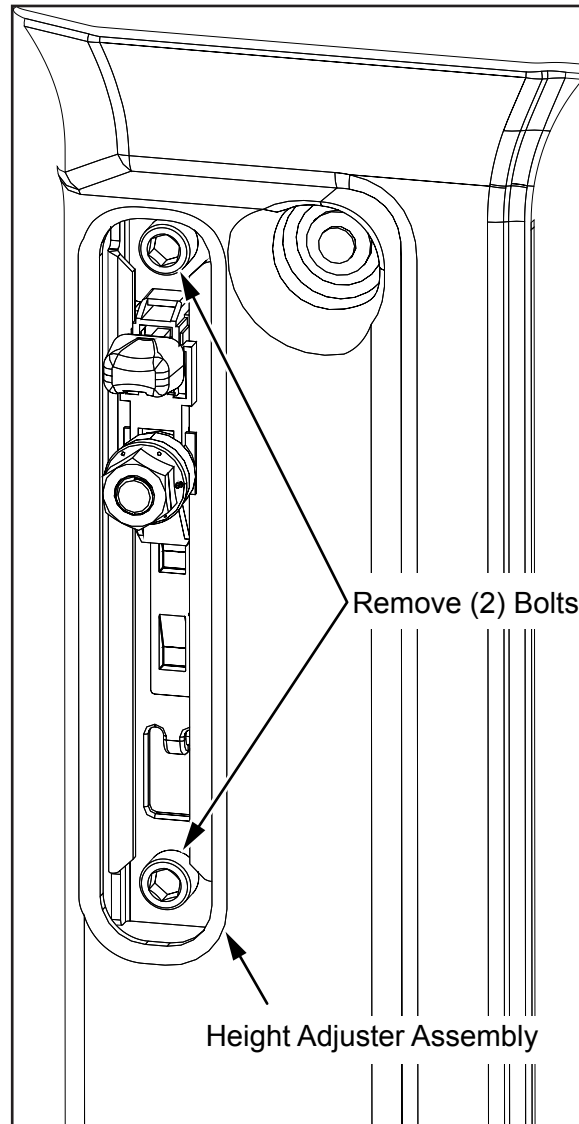

Figure 13
14. Remove (2) 3/8" bolts and the height adjuster and discard. Repeat step 14 for the opposite side (see *Figure 13*).